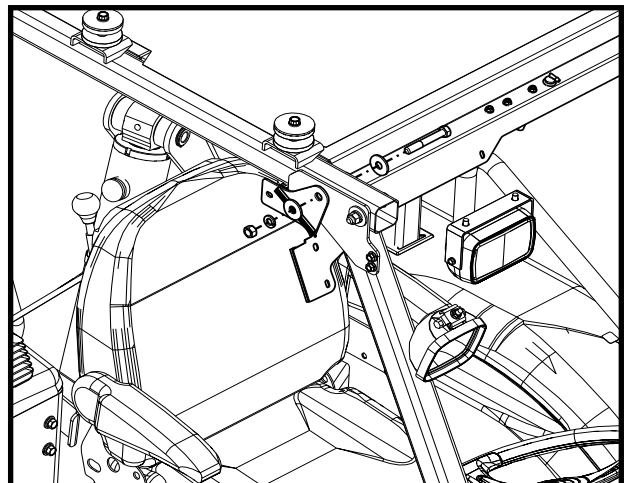

Figure 3.2: Fasten Windshield Support
- 3.2 Remove and retain the rear M12 nut, lock washer, and flat washer from the upper front ROPS, just under the canopy (see Figure 3.2, canopy hidden for clarity). Push the end of the bolt flush with the OEM side frame bracket, but do not remove. Repeat for the other side.
- 3.3 With assistance, place the windshield support against the ROPS per Figure 3.2 and align the hole in the bracket on each side to the M12 ROPS bolt. Push the bolt through the bracket and secure with the flat washer, lock washer, and M12 nut removed in step 3.2. Leave loose.